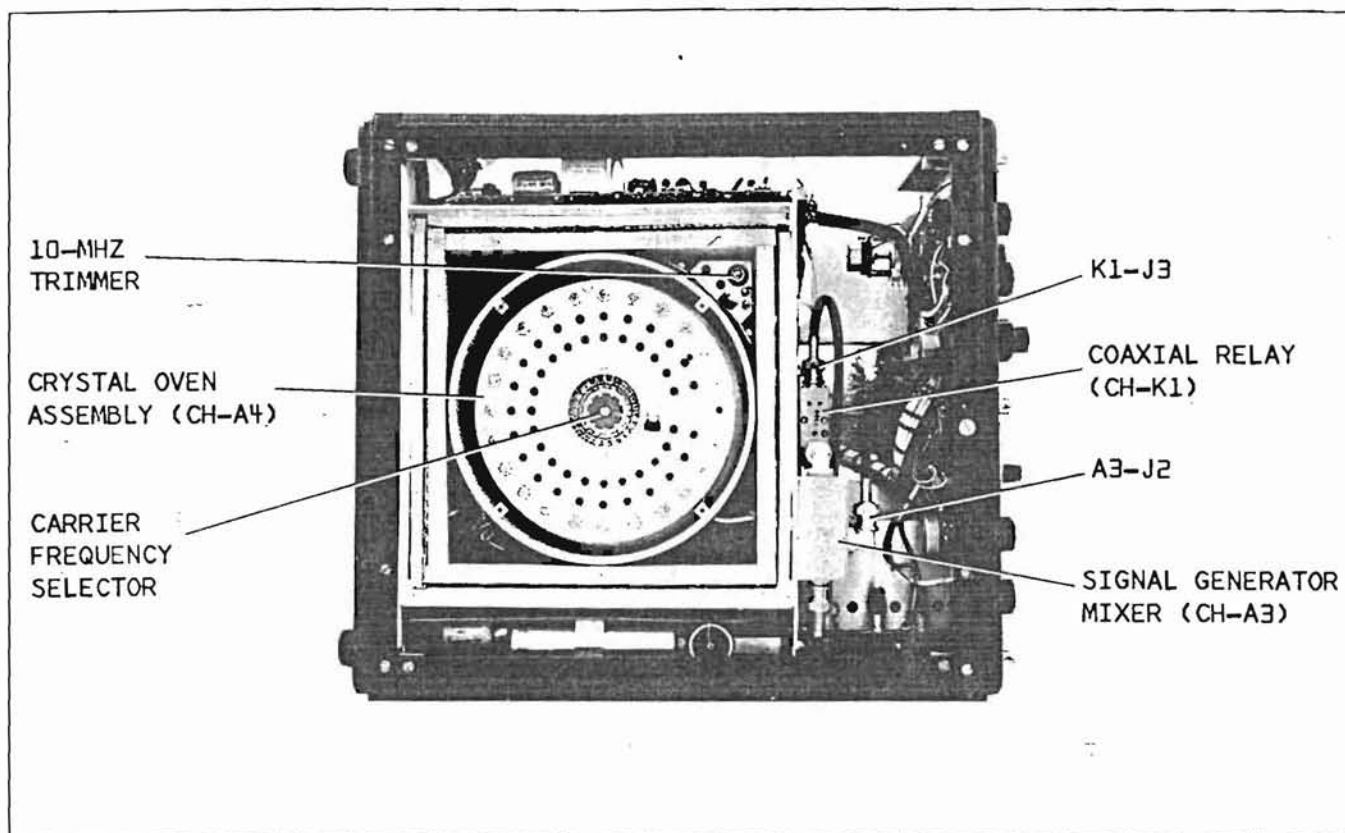

Figure 5-2. CE-7 Bottom Interior View
- a. The crystals and trimmer capacitors for each of the 23 channels are in the Crystal Oven Assembly (CH-A4). Access to the trimmer capacitors is through the bottom of the instrument. See Figure 5-2. The Crystal Oven Assembly cover has a revolving disc with one tuning hole, which can be rotated to line up with the access holes for each of the 23 crystal trimmers. The tuning tool used to adjust the trimmer capacitors must be an insulated female-slotted tuning driver. Refer to Table 5-3 for Crystal Oscillator Adjustment procedures.
- b. A separate 10-MHz crystal, also located in the Crystal Oven Assembly (see Figure 5-2), is used when the function switch is in the CAL./CW position. Its trimmer capacitor access hole is located diagonally above crystal position 21 on the Crystal Oven Assembly cover.